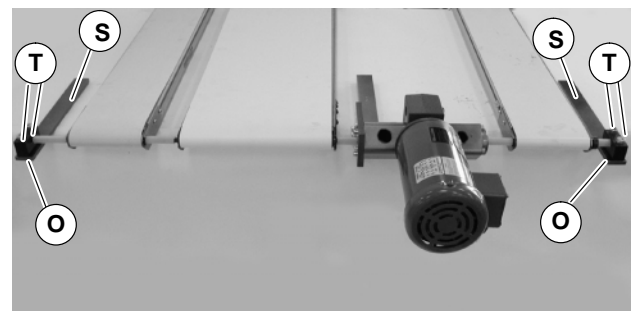

Figure 33
3. Remove four (4) screws (T of Figure 33). Remove bearing blocks (O).